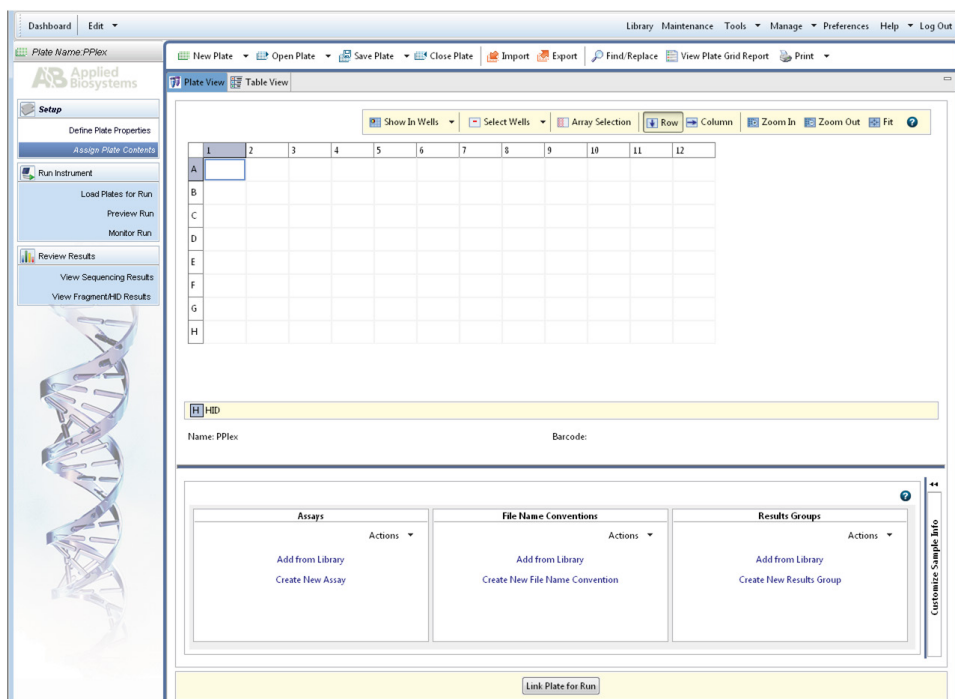

Figure 9. Assigning plate contents.
10. Select **Assign Plate Contents** (Figure 9).